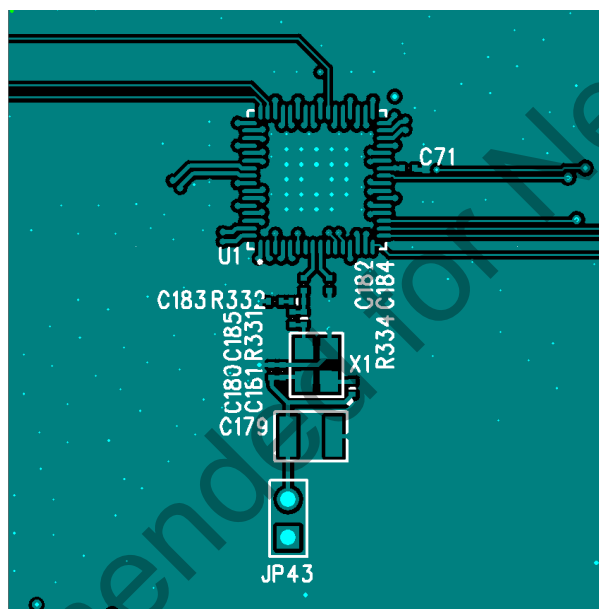
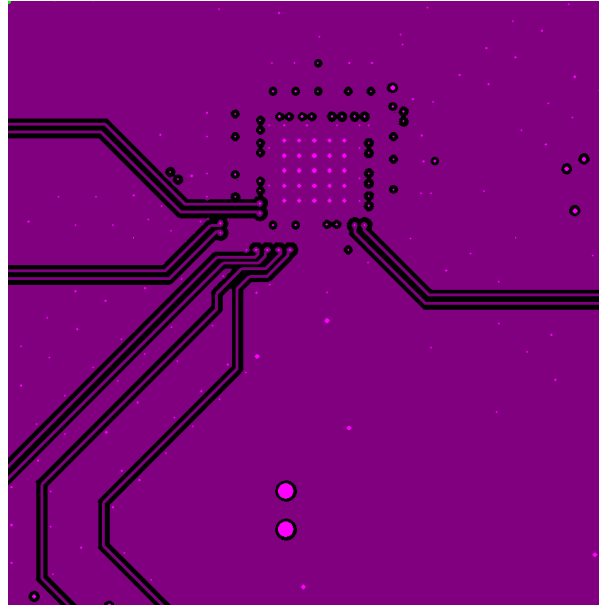

Figure 9.1. External XO: Si5381/82 Device and XO Layout Recommendations, Top Layer (Layer 1)
Figure 9.2. External XO: Input Clocks and Ground Fill, Below the Top Layer (Layer 2)
3. Connect the crystal's "GND" pins to the devices X1 and X2 pins via a local crystal shield placed around and under the crystal. See the bottom right diagram of Figure 9.1 External XO: Si5381/82 Device and XO Layout Recommendations, Top Layer \(Layer 1\) on page 68 for an illustration of how to connect the crystal shield by placing vias connecting the top layer traces to the shield layer underneath. The second layer of the ground shield is shown in Figure 9.2 External XO: Input Clocks and Ground Fill, Below the Top Layer \(Layer 2\) on page 69.